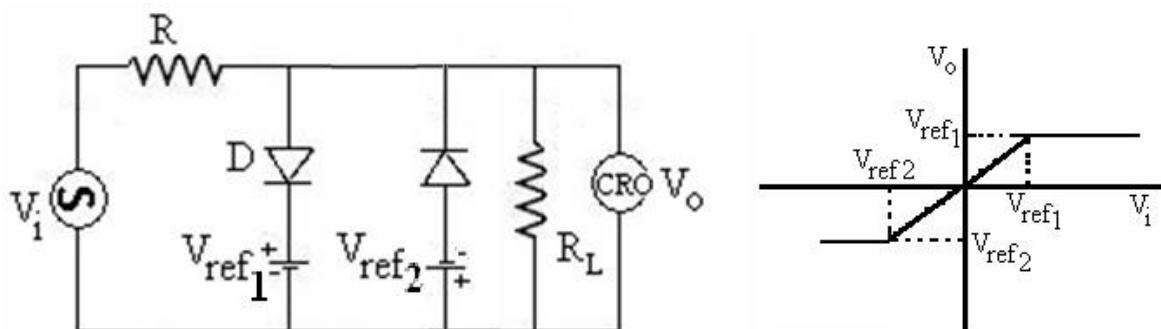
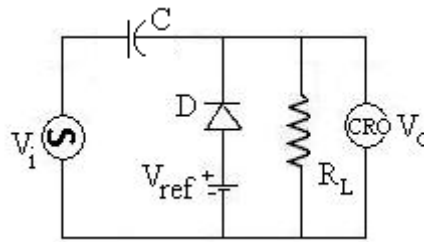

Fig.3 Double ended clipper Circuit
Fig. 5 Positive Clamper
3. For double-ended clipping circuit, make the circuit connections as shown in fig.3 and the output waveform observed is as shown in figure 5.
2. Make the connections as shown in circuit diagram (fig. 5).